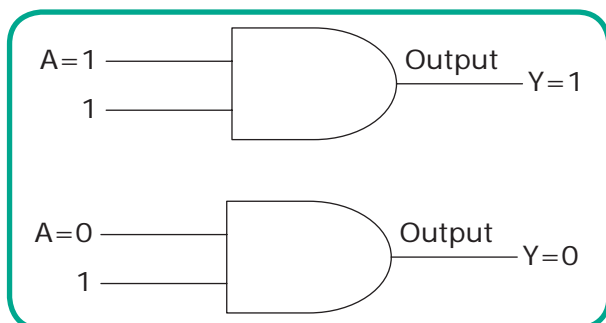

Figure 8.4 Logic gate representation of Theorem 2
**Theorem 2 ( $A.1=A$ ):** This theorem can be verified by ANDing a variable A with a 1 and is illustrated in Figure 8.4. Here, one input to AND gate is always 1